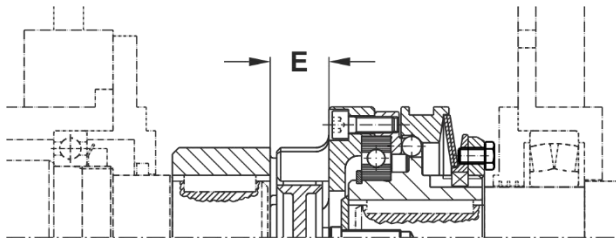

Fig. 2
EAS[®]-NC clutches include cone bushings, shrink disks, clamping hubs or keyways as part of the standard delivery. The EAS[®]-NC clutch (1) and the ROBA[®]-ES-coupling hub (3) are mounted onto the shafts and secured axially (example Fig. 2). After this, both clutch halves can simply be pushed together.
Do not put any axial pressure onto the elastomeric element (2). The distance dimension "E" acc. Table 1 and Fig. 2 must be observed!
- with a press cover and a screw, screwed into the shaft threaded center hole and/or a locking set screw (see Fig. 2).